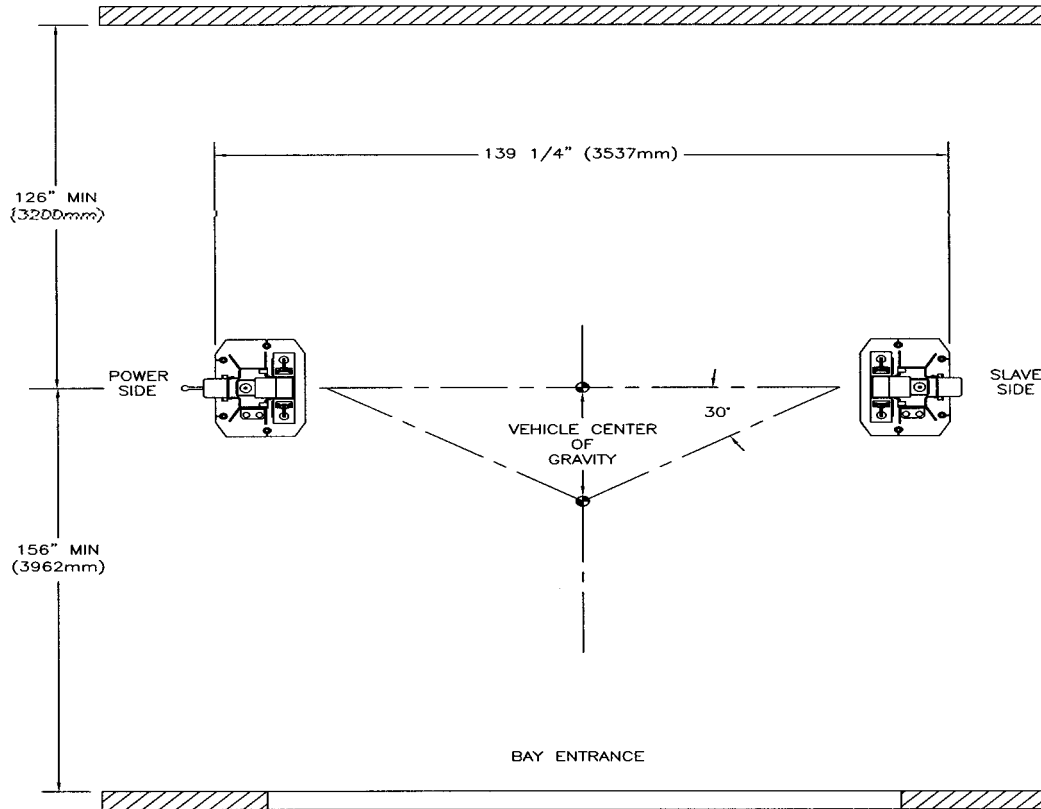

Figure 3 – Bay Layout
7. Prepare the bay by selecting the location of the lift relative to the walls. Clear the installation area of all packaging materials to avoid trip hazards. Draw a chalk line on the floor to represent the centerline of the bay then draw a second chalk line at 90° for locating the lift towers. Refer to **Figure 3**.
1. Locate the power side and slave side towers and position them as shown in **Figure 3**. Double check all the dimensions in the layout.
3. Check the towers to make sure they are located, and positioned in the correct location. Refer to **Figure 3**.
3. Refer to Bay Layout (**Figure 3**) to ensure that the column is still in the proper position. Using a rotary hammer drill with a 3/4" masonry drill bit, drill holes in the floor on the high side column using the tower baseplate as a template. Make sure that the 3/4" masonry drill is in good condition (**Figure 7**).